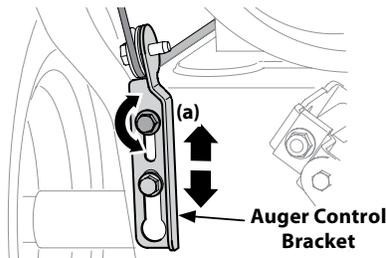

Figure 2-51
4. Allow auger to remain engaged for approximately ten (10) seconds before releasing auger control lever. Repeat this several times.
7. To readjust the auger control cable, loosen upper hex screw (a) on auger control bracket. See Figure 2-51.
8. Position bracket upward to provide more slack (or downward to increase cable tension). See Figure 2-51. Retighten upper hex screw (a).